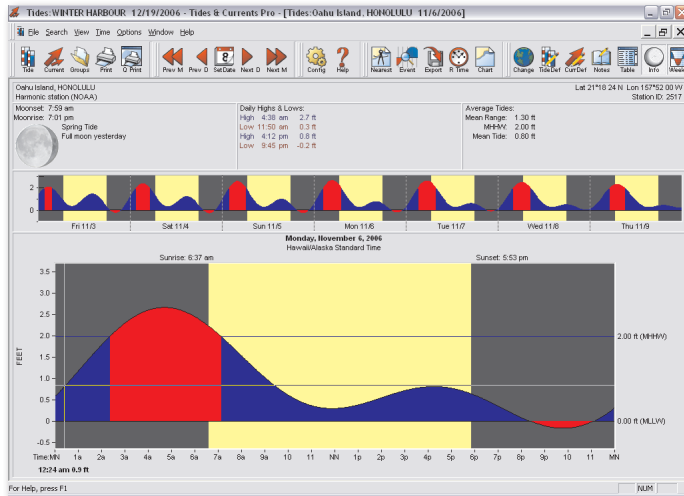

Figure 14.3 - Tides & Currents Graph
4. The Tides & Currents program will open (see **Figure 14.3**) and you should see a graph that covers a 24-hour period. The graph will contain several important pieces of information.